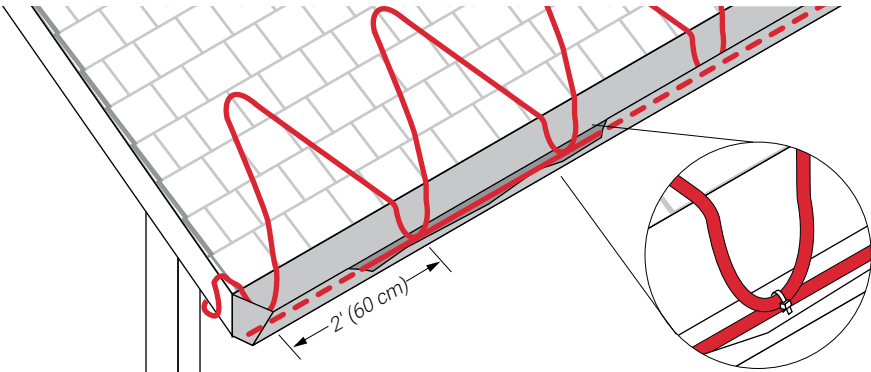

Fig. 7 Layout in a zig-zag pattern
For sloped roofs, ice dams may form at the roof edge. To maintain a continuous path for melt water runoff, route the heating cable in a zig-zag pattern as shown in Fig. 7 and follow the appropriate attachment recommendations in "Step 6 Select attachment accessories and method". Additional heating cable may be needed for other gutters, downspouts, and valleys.
- Install the heating cable on the roof in a zig-zag pattern as shown in Fig. 7.
Note: Attachment methods are not shown in Fig. 7. For attachment methods, proceed to "Step 6 Select attachment accessories and method" on page 21.